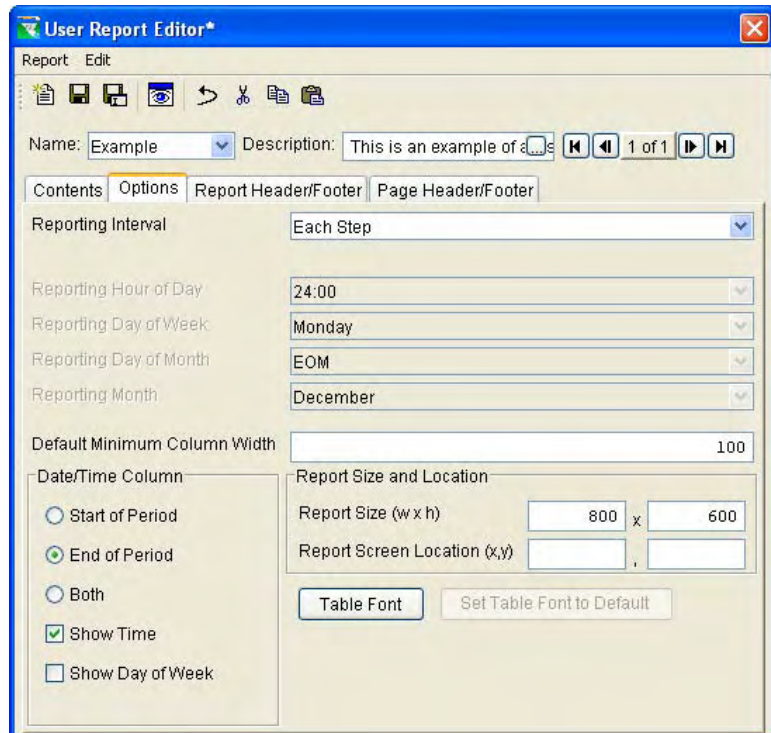

Figure 14.45 User Report Editor – Options Tab
5. In the **User Report Editor**, select the **Options** tab (as shown in Figure 14.45).